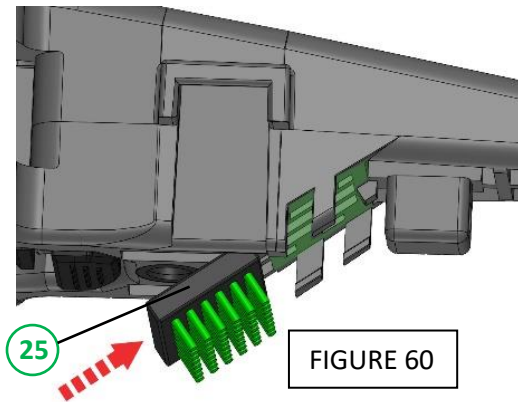
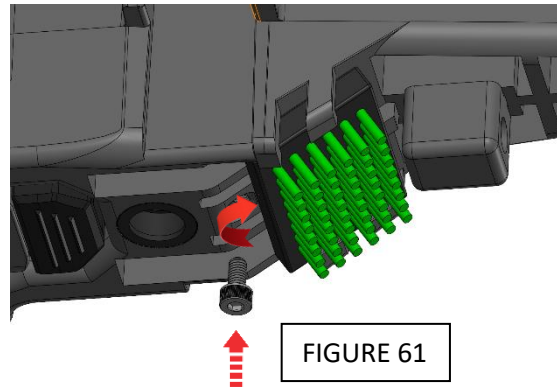

FIGURE 60
FIGURE 61
Slide in the brush plate (25) into the designated area at the stabilizer (FIGURE 60) and screw in the screw using a 2.5mm Allen wrench until fully locked (FIGURE 61).